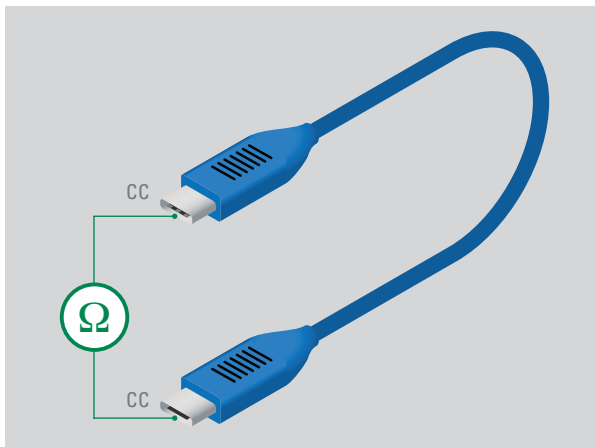

Figure 9. USB Type-C to Type-C cable quality assurance test
- Refer to Figure 9 for cables with a USB-C plug on each end.